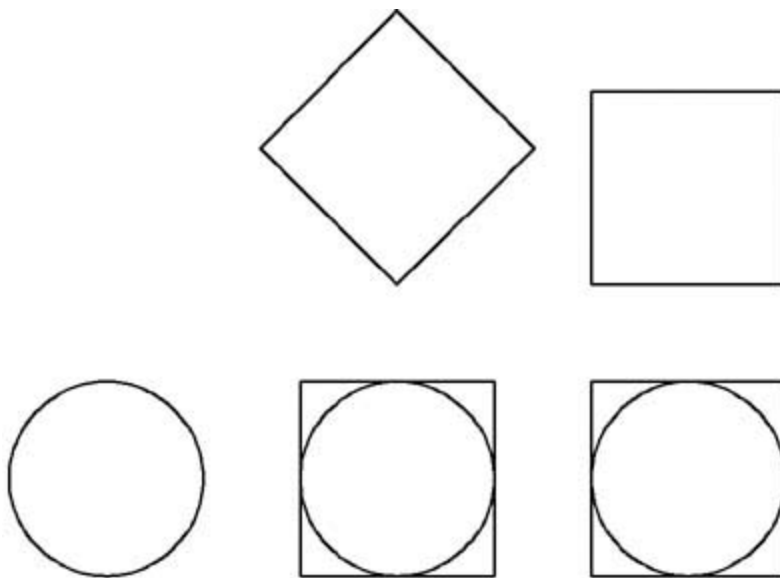

Figure 4-15
- 7** Save your drawing. Your drawing should resemble Figure 4-15.